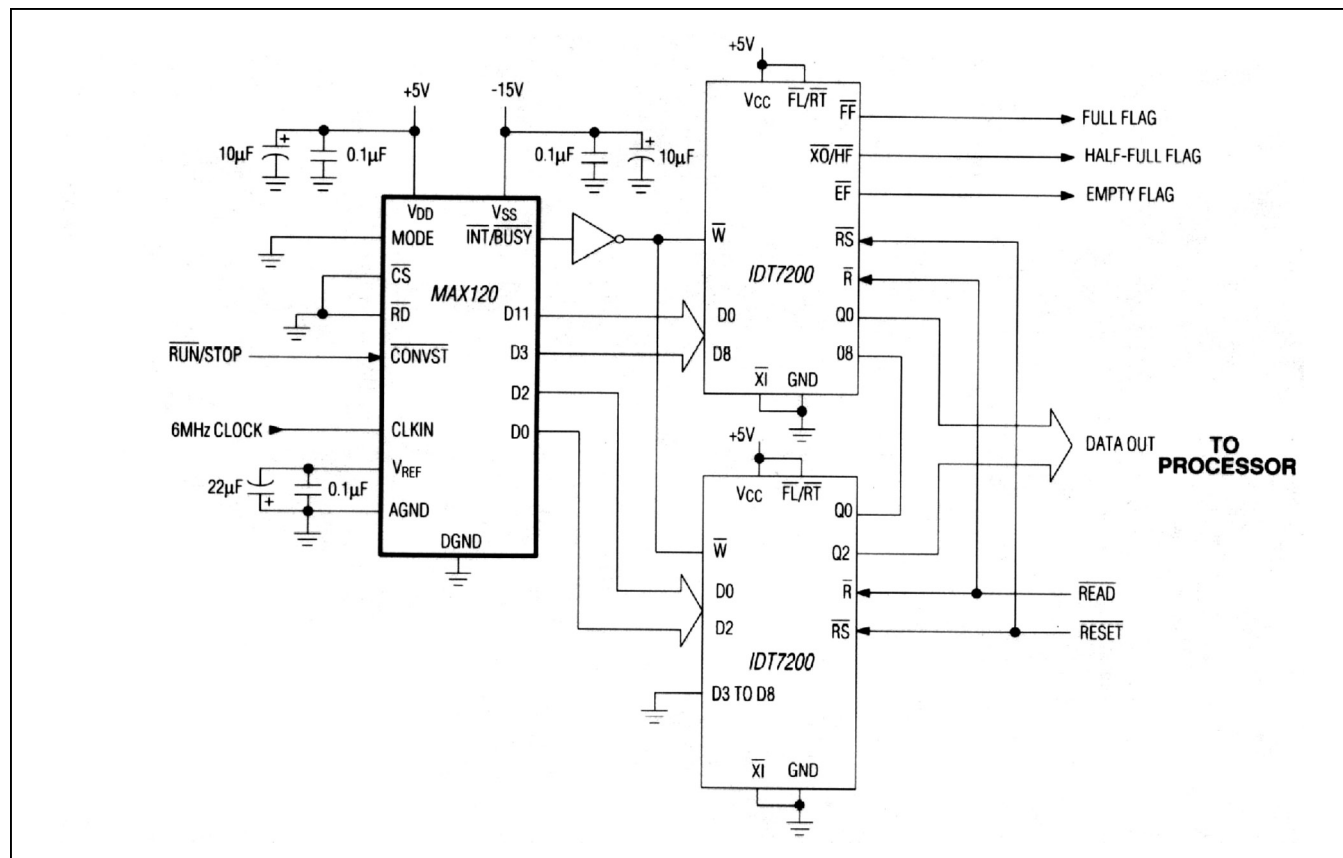

Figure 13. Using MAX120 with FIFO Memory
Using FIFO memory to buffer blocks of data from the MAX120 reduces μ P interrupt overhead time by enabling the μ P to process data while the MAX120, unassisted, writes conversion results to the FIFO. To retrieve a block of data, the μ P reads from the FIFO via a read-interrupt cycle. Read and write operations for the FIFO are completely asynchronous. Figure 13 shows the MAX120 operating in continuous-conversion mode (mode 5), writing data directly into the two IDT7200 256 x 9 FIFO buffers at the rate of 428ksps. The μ P is interrupted to read the accumulated data by the FIFO's half-full (HF) flag approximately three times per millisecond. For operation at 500ksps, use an 8MHz clock, and pulse $\overline{CONVST}$ at 500kHz. The full flag (FF) indicates that the FIFO is full. If this flag is ignored, data may be lost. If necessary, conversions can be inhibited by pulling $\overline{CS}$, $\overline{RD}$, or $\overline{CONVST}$ high. The FIFO's read cycle times are as fast as 15ns, satisfying most system speed requirements. The RESET input resets all data in the FIFO to zero.